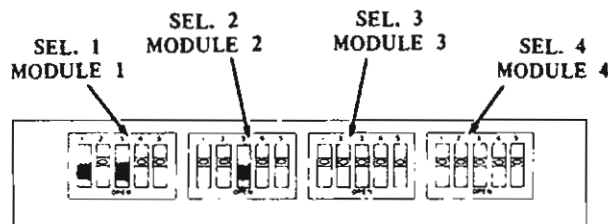
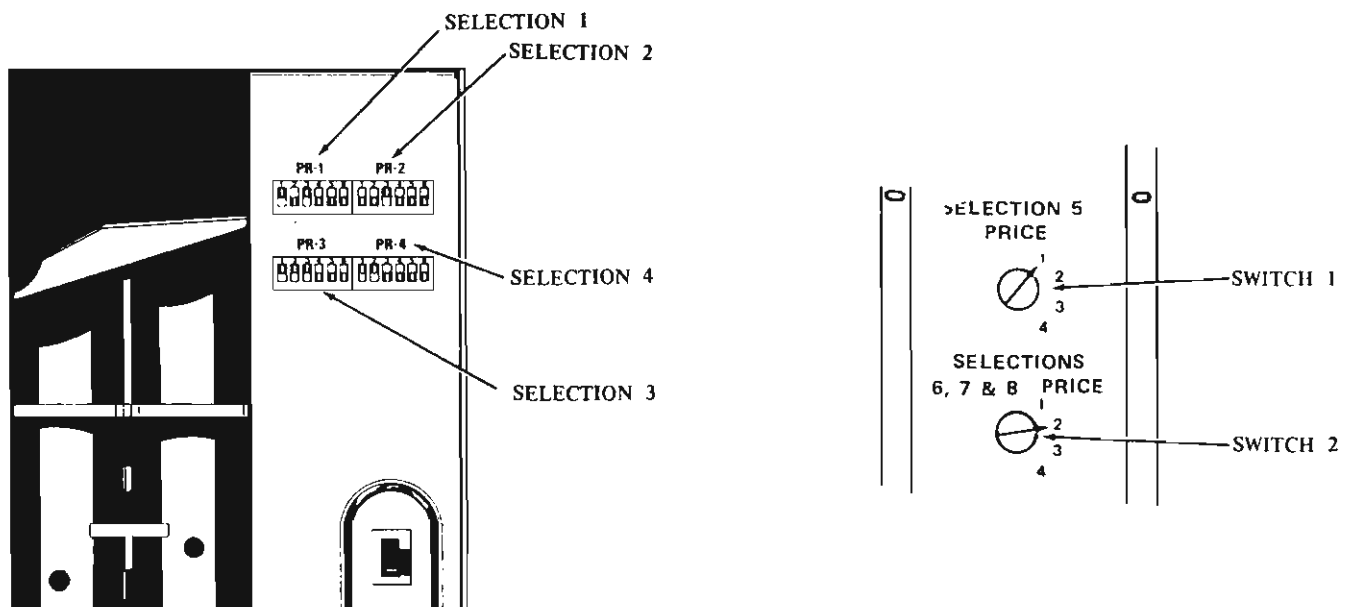

FIGURE 34
FIGURE 36
Selections 1, 2, 3 and 4 on the vender will be priced directly by the four (4) price modules in the Coinco Changer (See Figure 34).
The vend price of Selections 1 thru 4 is set at its corresponding module by adding the value of the switches placed in the ON position. Example: Figure 34 shows SEL. 1 set for 25¢.
Selections 1,2,3 and 4 on the vender will be priced directly by the four (4) price switch modules in the Mars Changer (See Figure 36).
The vend price of Selections 1 thru 4 is set at its corresponding module by adding the value of the switches placed in the ON position. Example: Figure 36 shows Selection 1 at 25¢, Selection 2 at 20¢, etc.
Selection 5 is priced with the knob on the Control Box Switch No. 1, Figure . The numbers represent the four coinage modules. Example: Figure 37 shows a price setting of 25¢, as related to Figure 34 Coinco and Figure 36 Mars.